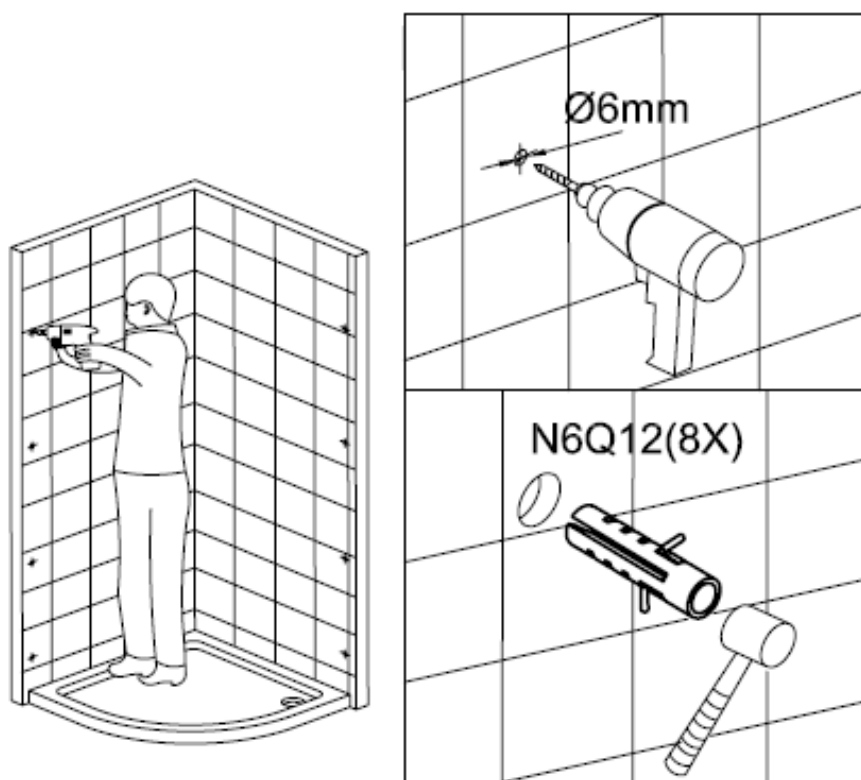

Figure 2
2. Drill the holes($\varnothing 6\text{mm}$) into the wall according to the marks made and insert the wall plugs (N6Q12) into the holes, as shown in figure 2.